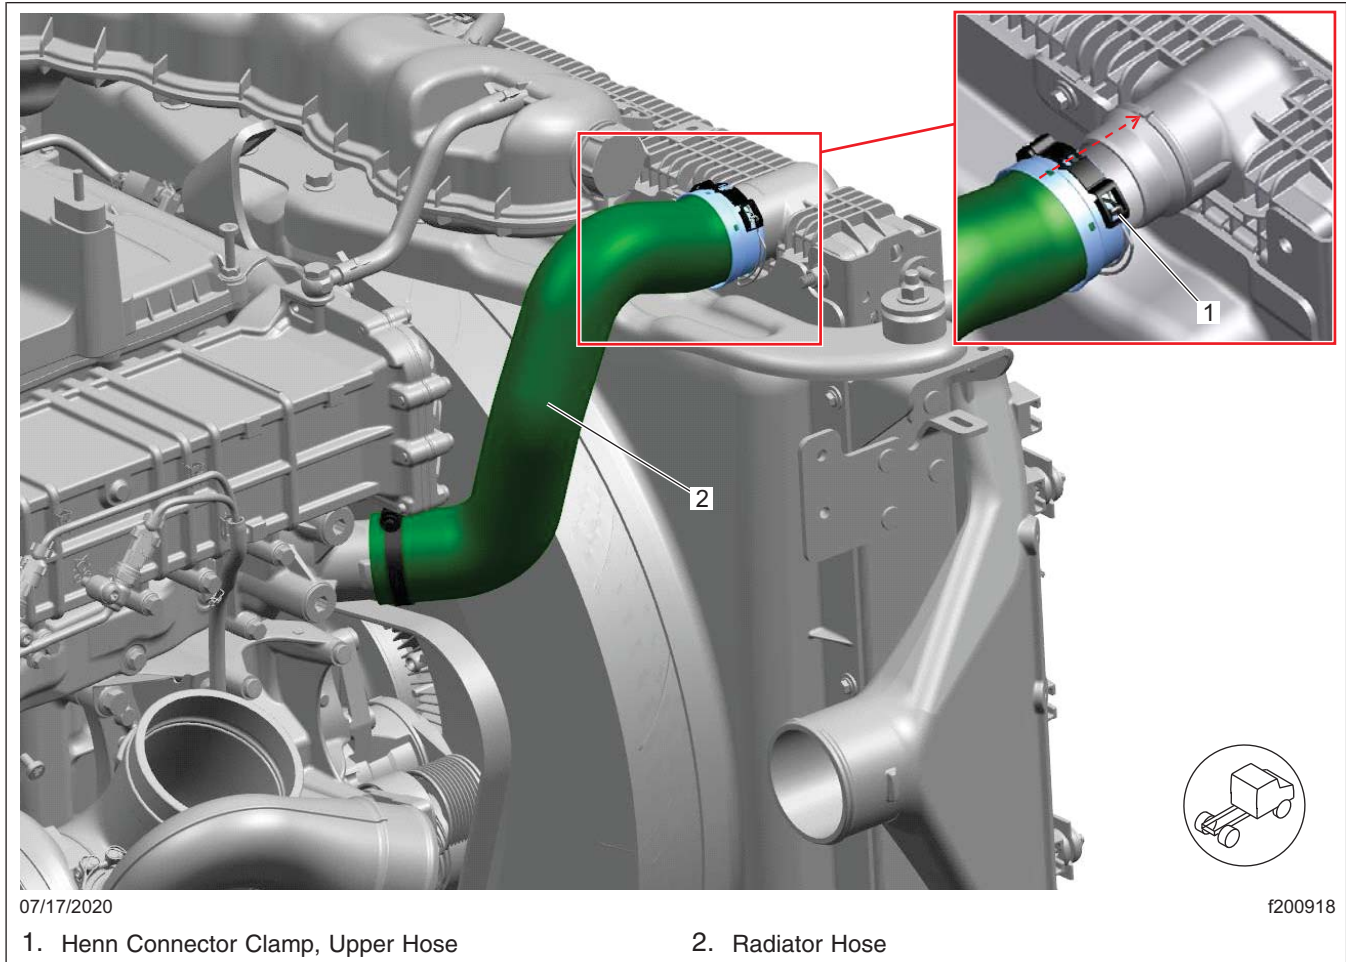

Fig. 4, Upper Radiator Hose Location
11. Remove the upper radiator hose connector to detach the hose. See Fig. 4 and Fig. 5.